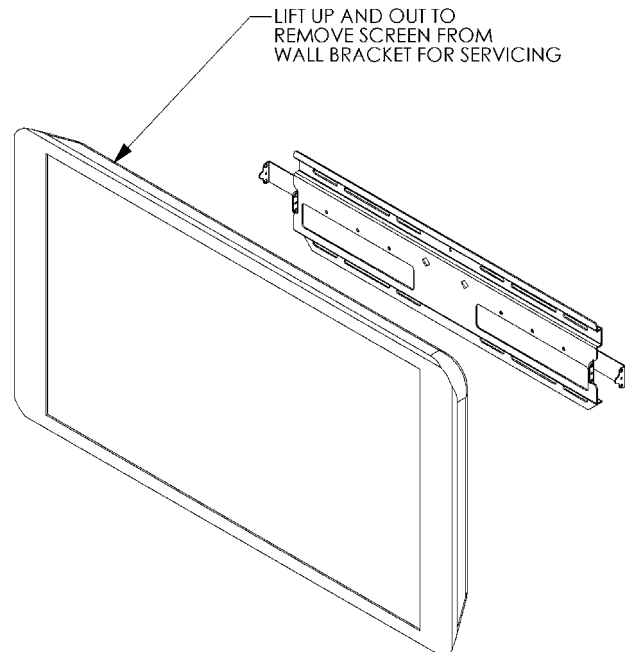

Figure 16. Remove Display
3. With an assistant, lift the display up and off the wall plate (see Figure 16) to remove the display from the wall.